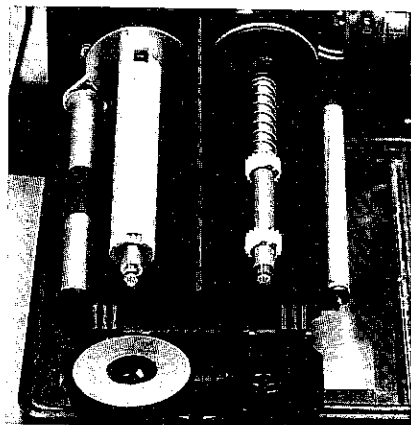

FIGURE 29
6. Pull the empty supply core from the right side in the same manner. Install the empty core onto the take-up shaft. (See Figure 29). Align the two notches in the core with the tabs on the lower take-up spool.